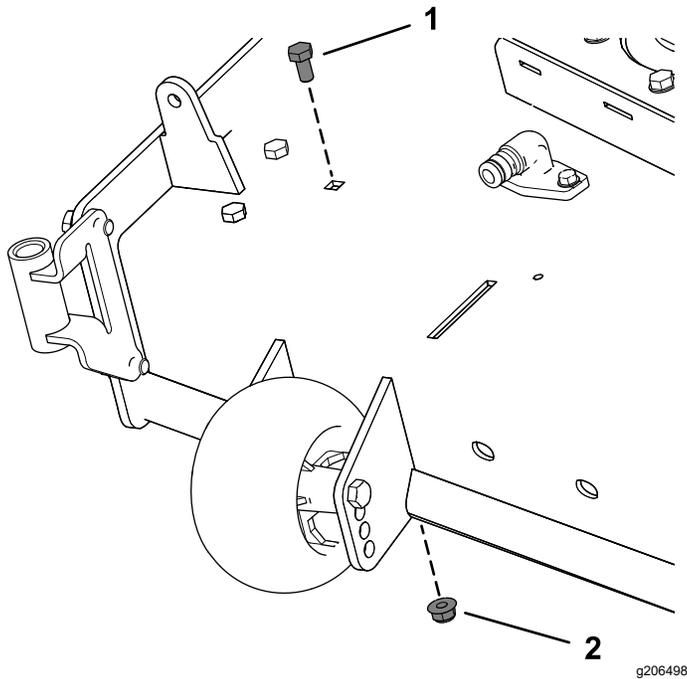

Figure 9
- Remove the existing bolt and nut from the mower deck (Figure 9).
For 54-inch mower deck, remove the bolt and nut as shown in Figure 9.